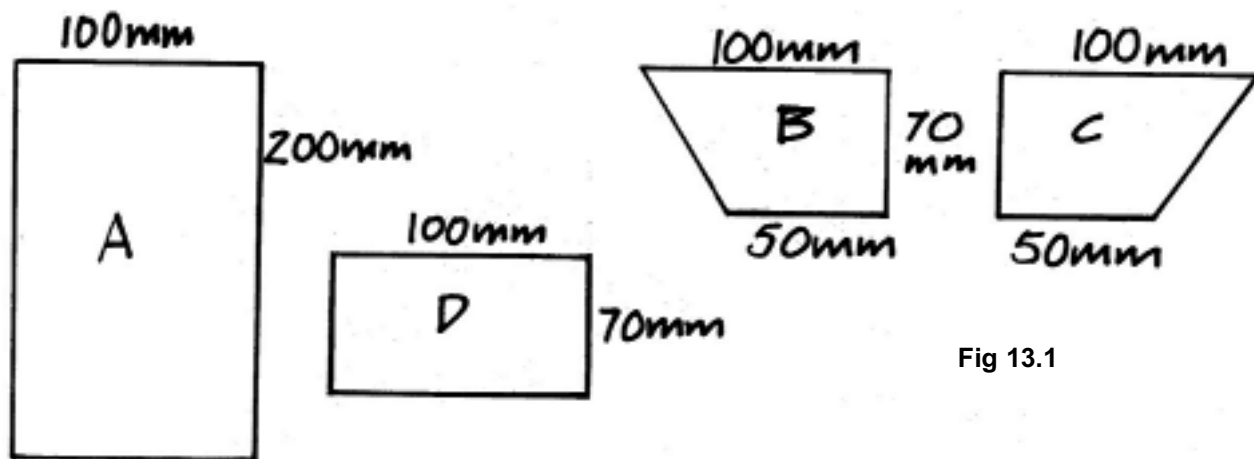

Fig 13.1
1. Cut panels to shapes and sizes as shown in fig 13.1. Cut 12 pieces of shape A from 3mm clear glass. Cut 8 pieces of each of the other shapes (B, C and D) in glass the color of your choice. The top and bottom of the terrarium can be measured and cut during construction.